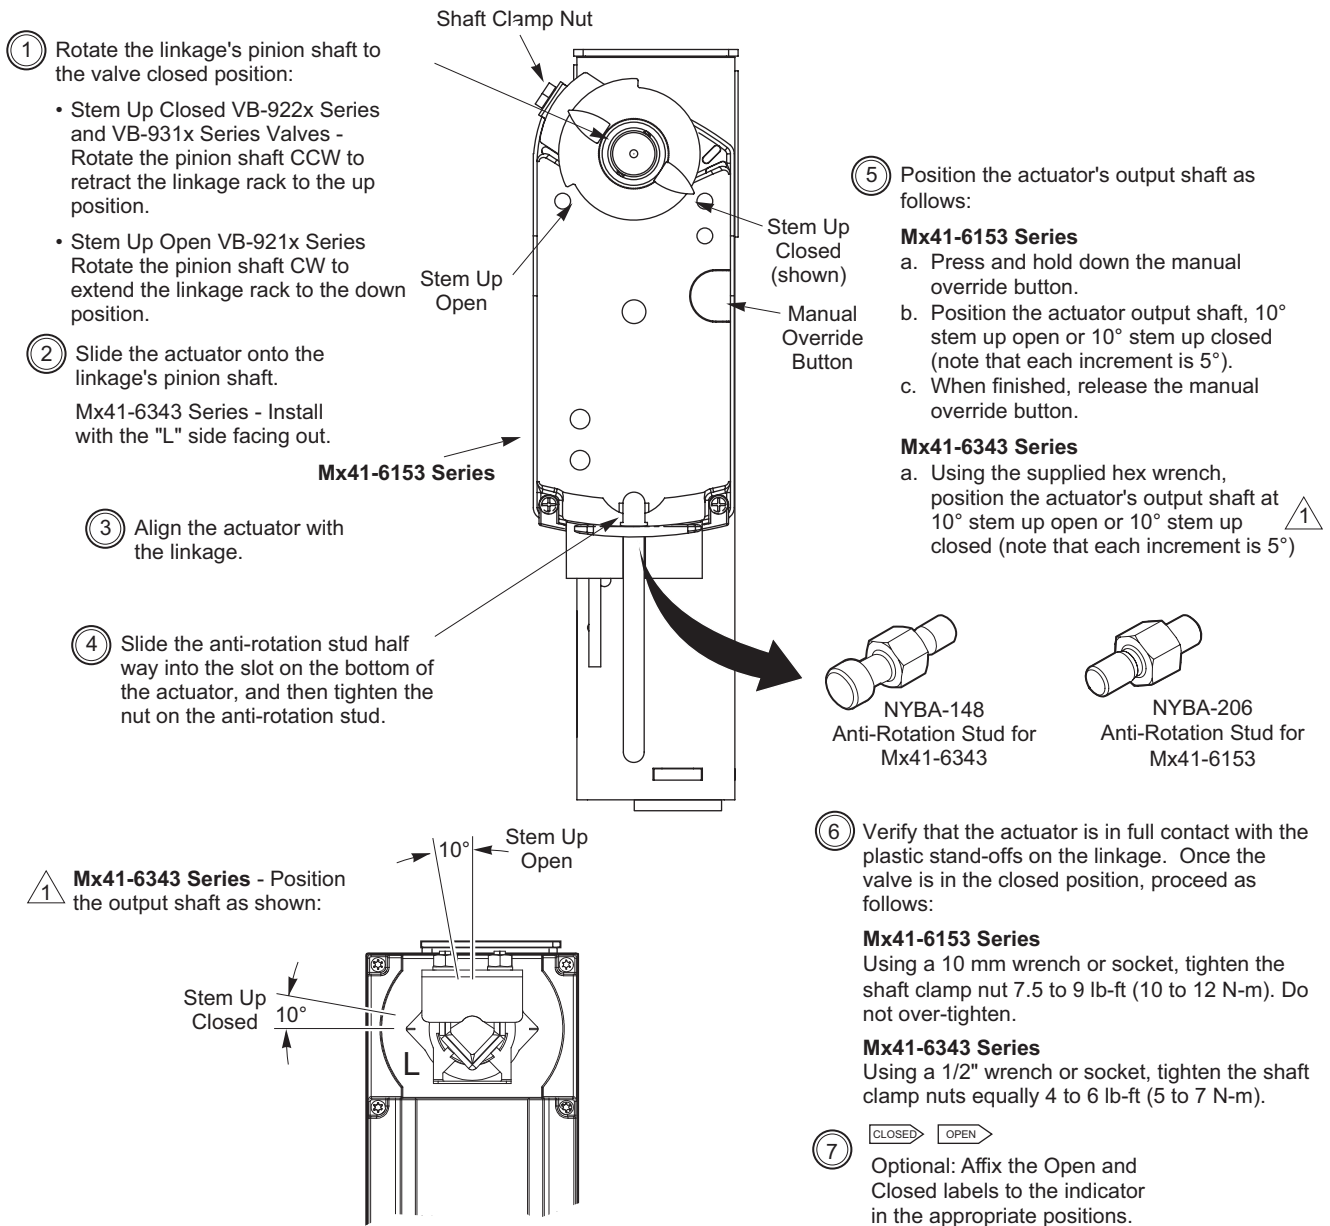

Figure-5 Mounting Mx41-6153 Series or Mx41-634x Series Actuators and Setting Up Actuator/Linkage Valve Assembly
- a. Install the actuator onto the linkage and valve, and set up the assembly, according to Figure-5.